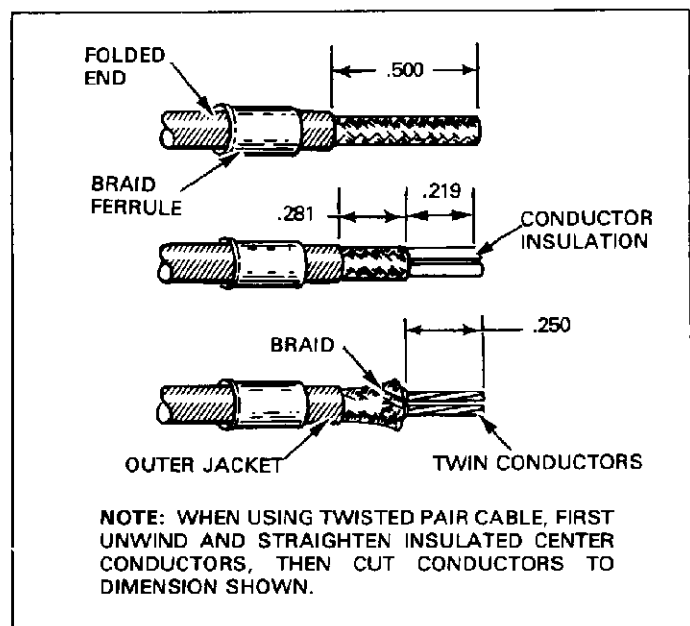

Fig. 2
Before stripping cable, slip ferrule on cable as shown in Figure 2. Then proceed as follows:
braided as shown in Figure 2.
4. Strip cable, exposing .250 in. of both conductors as shown in Figure 2.